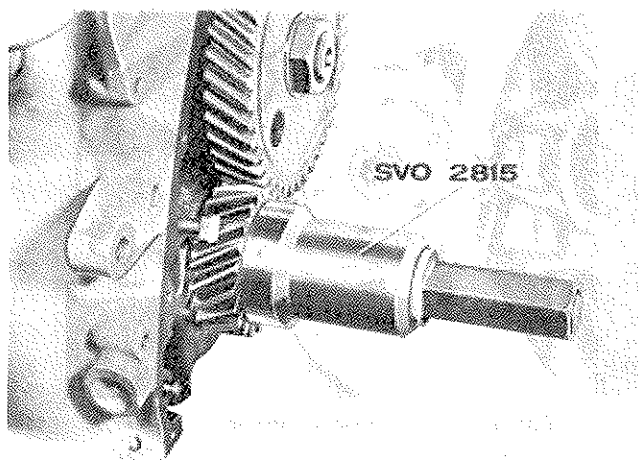

Fig. C13. Fitting the crankshaft gear (6-cyl. engine)
5. Fit the crankshaft drive with tool SVO 2815, see Fig. C13.